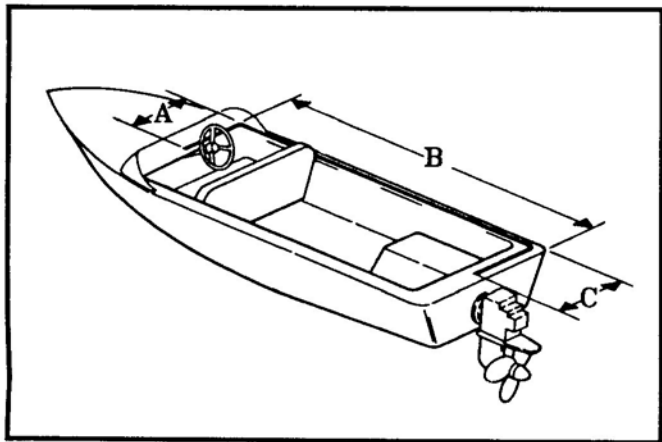

FIGURE 1
2.4 Calculate the length of cable needed by using the formula below $A+B+C-(4)$ for each 90 degrees bend = approximate length as per Figure 1.